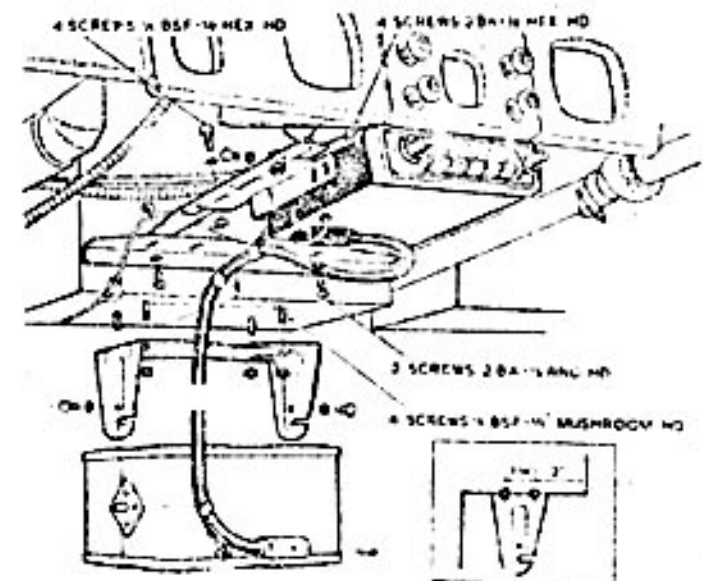
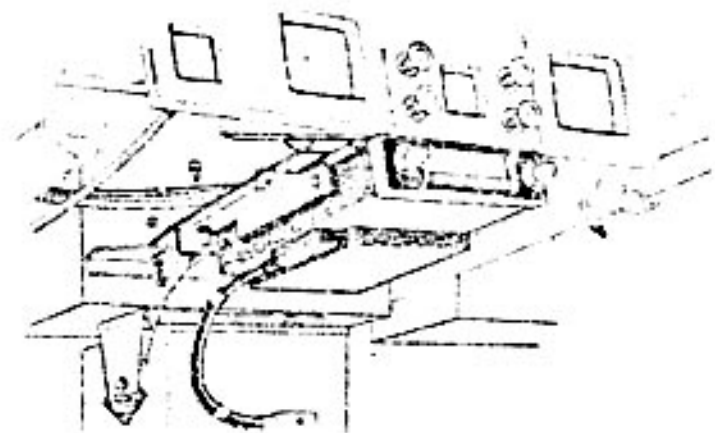

Fig. 2
Fig. 3
1. Remove battery. Fit bracket as shown in Fig. 2., and secure with fixings provided. (Drill four $\frac{3}{8}$ " diameter holes in battery compartment).
2. Secure unit to brackets as shown in Fig. 2.
1. Attach front support bracket to instrument panel supports as shown in Fig. 2 or Fig. 3.
2. Secure main mounting bracket as shown in Fig. 2 or Fig. 3 using fixings provided.
3. Attach Control Unit to brackets as shown in Fig. 2 or Fig. 3.